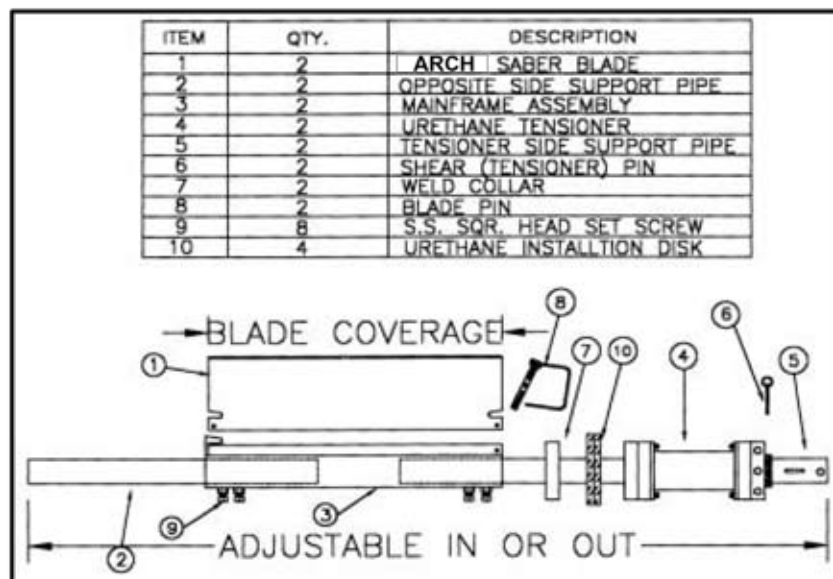
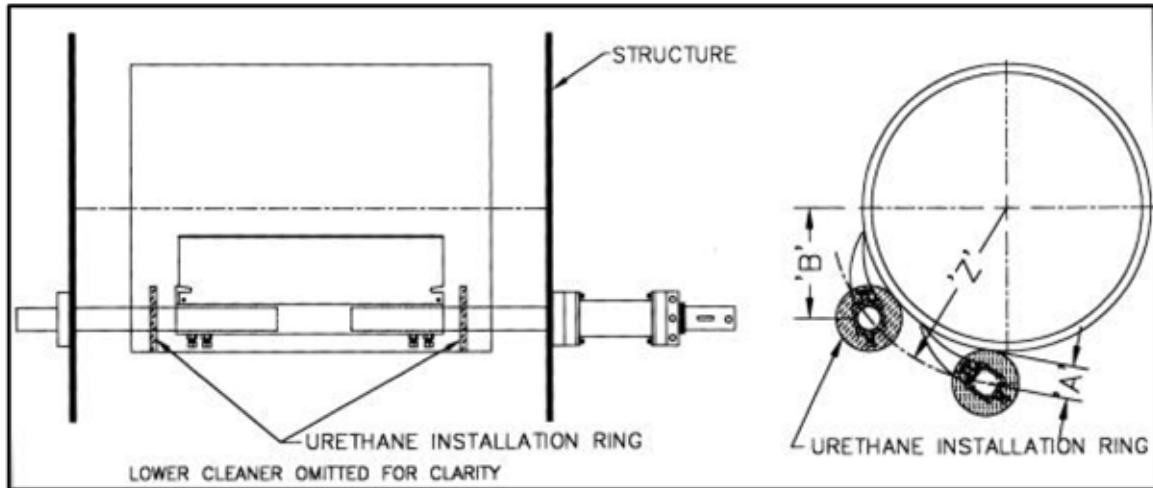
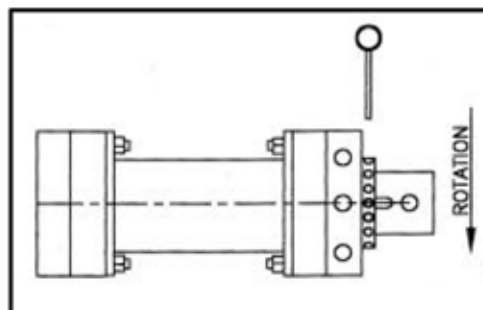

Fig. 2
Fig. 3
Fig. 4
Disassemble both cleaners, one at a time (FIG. 2). This is done by removing the pin (ITEM 6) at the end of the index hub. Remove the tensioner (ITEM 4 - FIG. 2) from the tensioner pipe. You will notice when the tensioner is removed, there is another weld collar (ITEM 7 - FIG. 2). This is the weld collar for the opposite side. You should also notice two urethane rings (ITEM 10 - FIG. 2) and installation instructions included in the packaging. These rings are used to verify the "Z" and "A" dimensions. You will also find the tensioner wrench inside the tensioner pipe. Loosen the setscrews (ITEM 9 - FIG. 2) on the mainframe.
*Caution! Loosen them only enough to allow both pipes (ITEMS 2 & 5 - FIG. 2) to be removed from the cleaner mainframe (ITEM 3 - FIG. 2).*
Put the frame and blade assembly (ITEMS 1 & 3 - FIG. 2) inside the chute, and slide the support pipes (ITEMS 2 & 5 - FIG. 2) through the 2 1/2" (63.5mm) x 3" (76.2mm) holes previously cut. Then slide the weld collar (ITEM 7 - FIG. 7) and the tensioner (ITEM 4 - FIG. 2) onto the support & tensioner pipes. Next, level the cleaner in relation to the head pulley. Verify the "Z" dimension by slipping the installation rings onto the support & tensioner pipe (see FIG 3). *If the head pulley diameter is larger than 22", remove the outer ring.* The installation ring should be placed against the belt. Tack weld the weld collar and tensioner into place. Set the cleaner blade against the belt and insert the pin (ITEM 6 - FIG. 2) into the tensioner hub. Tighten the setscrews on the mainframe. Pull the pin again to check if the cleaner rotates freely in the hubs; if it doesn't, realign the hubs until it rotates freely. (repeat step 8). Now, complete welding on the hubs (3-1" (25.1mm) welds on each hub is enough).
Finally, pull the pin (ITEM 6 - FIG. 2) and rotate the tensioner away from the head pulley, until the next hole shows (SEE FIG. 4) in the tensioner hub. Reinstall the pin.